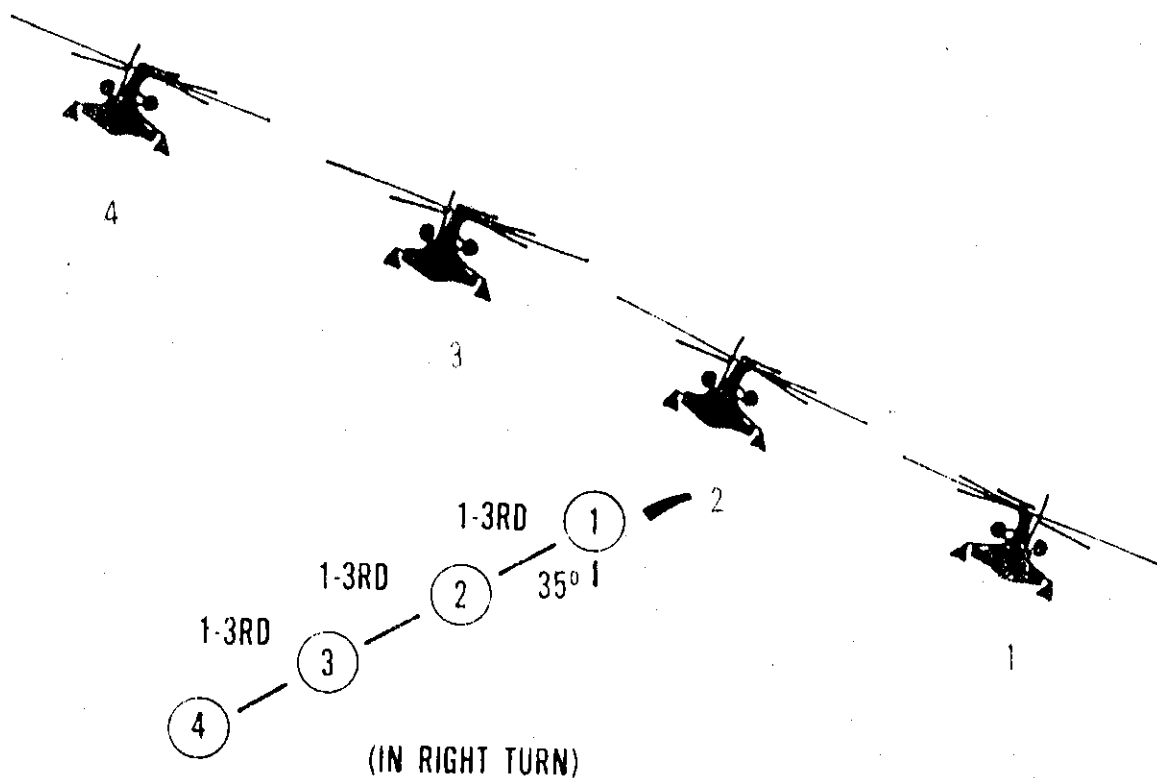

Figure 14-1. Echelon Formation.
- (1) Frequency changes will be initiated only by lead.
- (2) Wingmen will acknowledge (by numerical position in the flight) a frequency change prior to switching to the new frequency; however, lead may prebrief way points for communication changes, these do not require acknowledgement. Throughout the formation mission, an acknowledgement of a frequency change indicates all checklists are complete and you are ready for the next event. If you are not ready, reply with "standby." The frequency will not be changed until all have made the normal acknowledgement.
- (3) Lead will check in on the new frequency followed by all wingmen (in order).
- (4) If a wingman fails to check in after a reasonable length of time, lead will attempt contact on another radio. If this fails, lead will direct a member(s) of the flight back to the previous (or a prebriefed) frequency to reestablish contact.
- (5) Both the pilot and copilot in each aircraft in the flight will monitor the interplane frequency.
- (6) Only essential transmissions will be made. Strict radio procedures and discipline must be enforced in order to avoid jeopardizing safety and mission effectiveness.
a. **Echelon Formation.** (Right or Left) (See Figure 14-1) Each aircraft holds a position approximately 35° to 45° astern of the preceding aircraft on either the right or left side. Except for minor corrections, turns are normally made away from the formation.